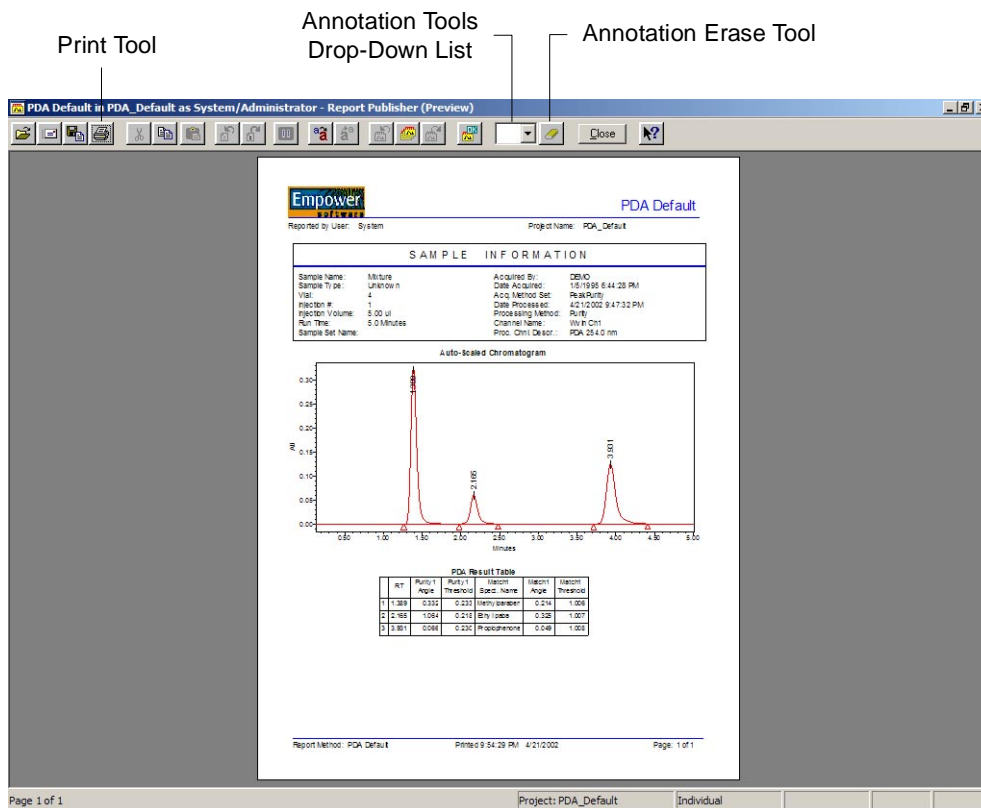

Figure 5-3 Preview of an Example Report
4. Click the **Use the following Report Method** option button, then select **PDA Default** from the list, and click **OK** to view a preview of the report (Figure 5-3).
- If the report looks the way you want it, click  (**Print**) (Figure 5-3). The Print dialog box appears. Make sure that the correct settings are selected, then click **OK**. A report similar to the one in Figure 5-6 prints.